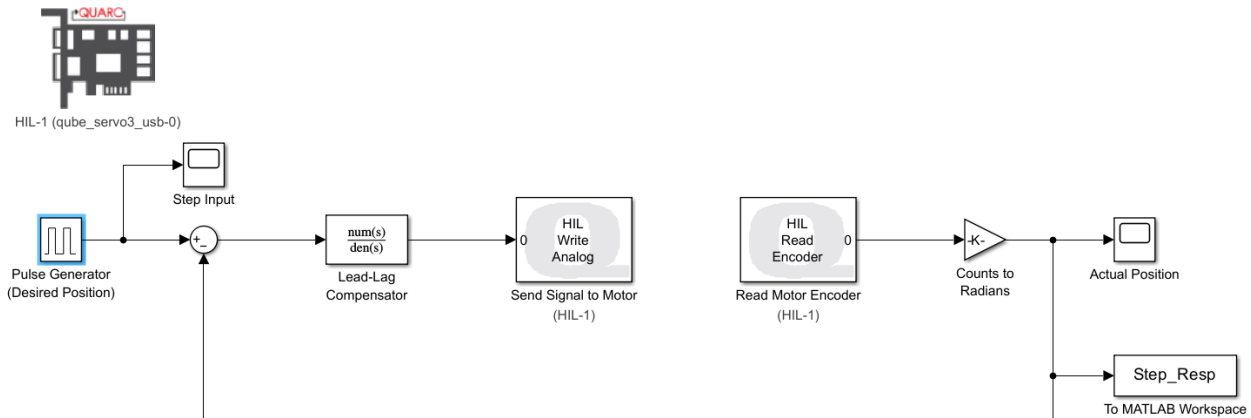

Figure 2: Target Simulink model for the step response experiment with Lead-Lag compensator.
- viii) When you are done building your model by following Figure 1, it should look like the target model shown in Figure 2. **STOP and VERIFY the following (Failure to do so may lead to damaging your motor):**